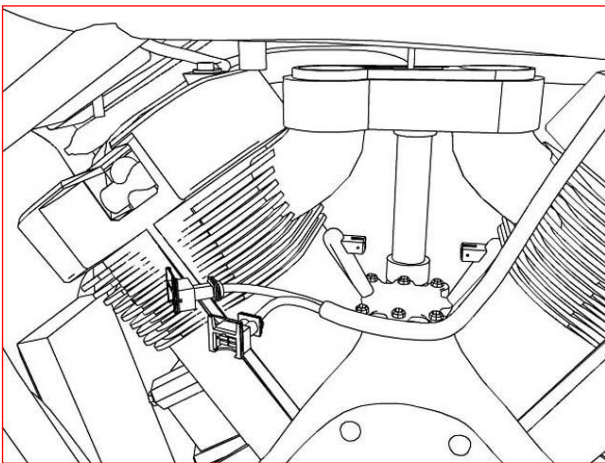

Figure 10
9. **Feed the injector harness out the left side. (see figure 10)**